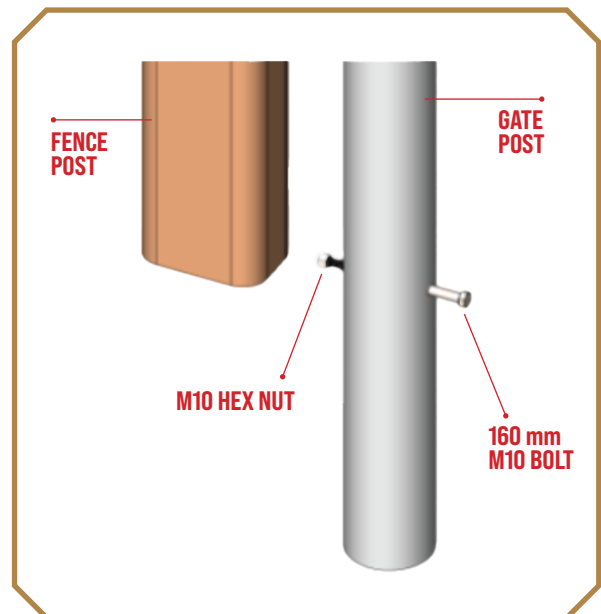

Figure 2
2. To prep the gate post, slide the 160 mm M10 bolt through the pre-drilled hole to anchor the bottom of the heavy round gate post, then screw the M10 hex nut on to the bolt. (Figure 2)